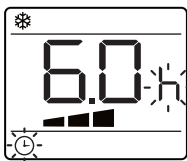

Figure 1
- Press the  button twice, the screen will display number of hours, the  symbol and  symbol will be flashing. See Figure 1 below.